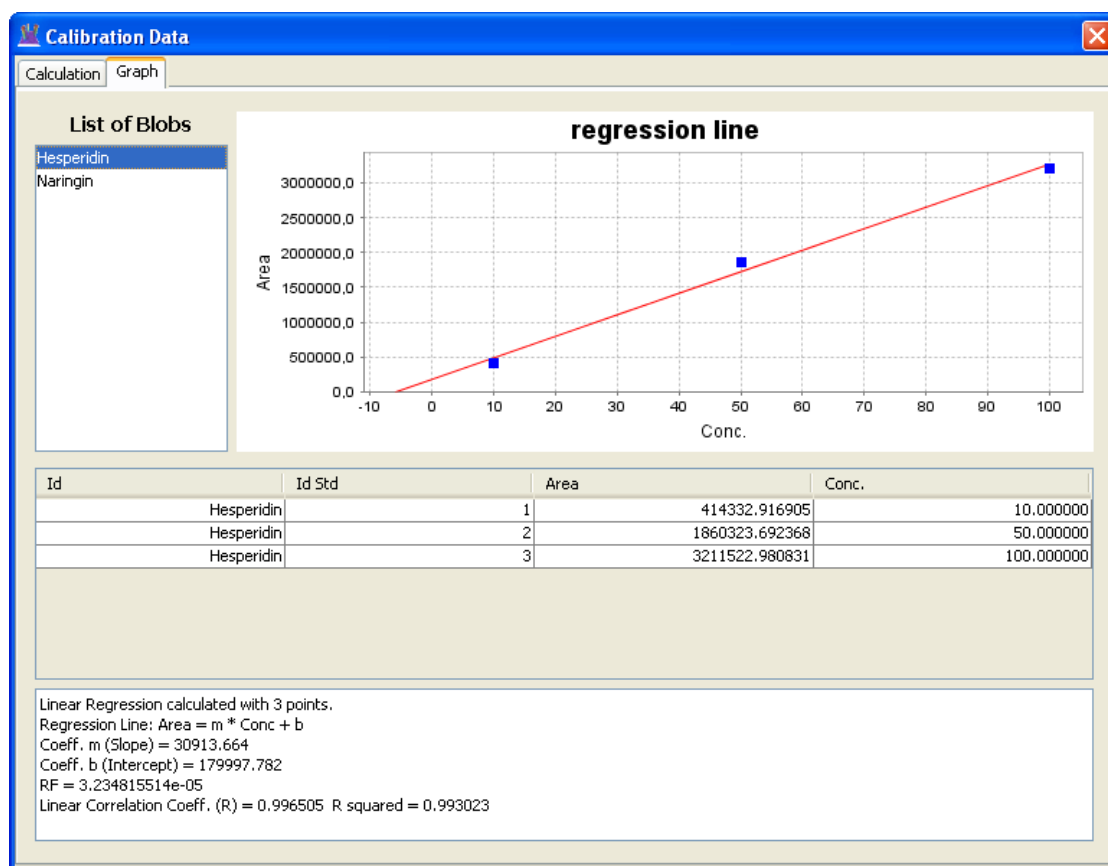

Figure 9.19: The Calibration Graph window
- The Graph page (a sample is shown in Figure 9.19) includes four *panels*: